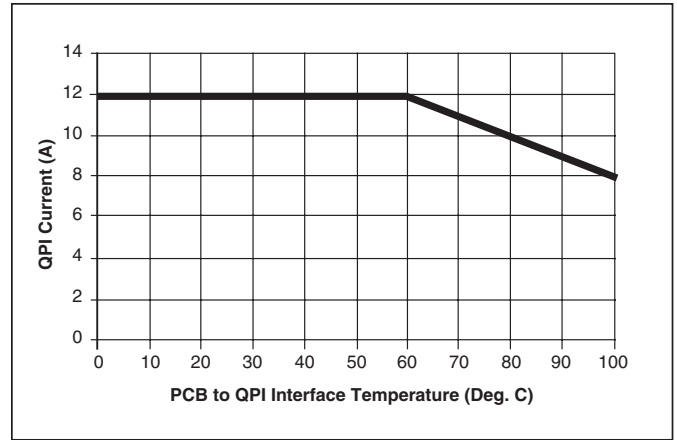

Figure 5 – QPI-1 current derating curve.
- -40° to +100°C PCB temperature (See Fig. 5)
Note 2 - Refer to Figure 5 for current derating curve.
The current derating curve shown in *Figure 5* should be used when the PCB temperature in close proximity of the QPI-1 exceeds 60°C. For example, the QPI-1 will support up to 10 A of current or 480 W from a 48 Vdc bus at an 80°C interface temperature. Temperature should be measured at the PCB interface to the QPI-1 on the Bus +/- pads or the QPI+/- pads. Refer to *Figures 9, 10 & 12* for PCB layout recommendation.